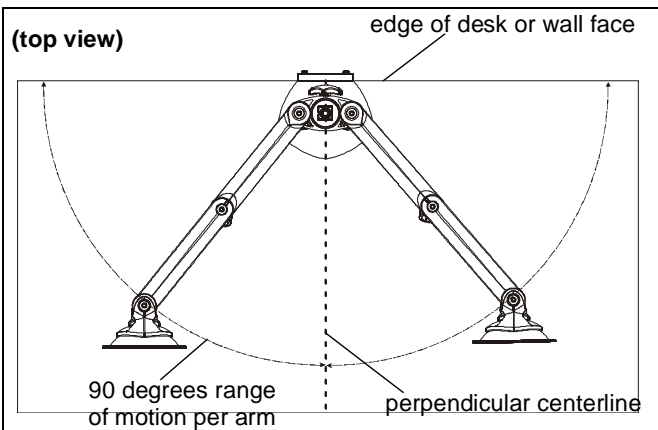

Figure 24
1. Adjust arm angles as desired within a 90 degree range from the edge of desk or wall and a perpendicular centerline of mount. (See Figure 24)